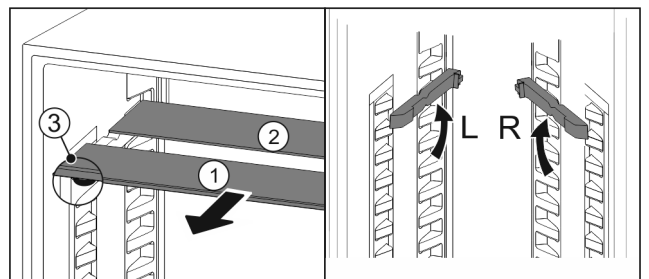

Fig. 126
- Pull the glass panels out Fig. 126 (1) from the front, one at a time.
- The glass panel Fig. 126 (1) and trim strip are at the front.
- The stops Fig. 126 (3) point down.